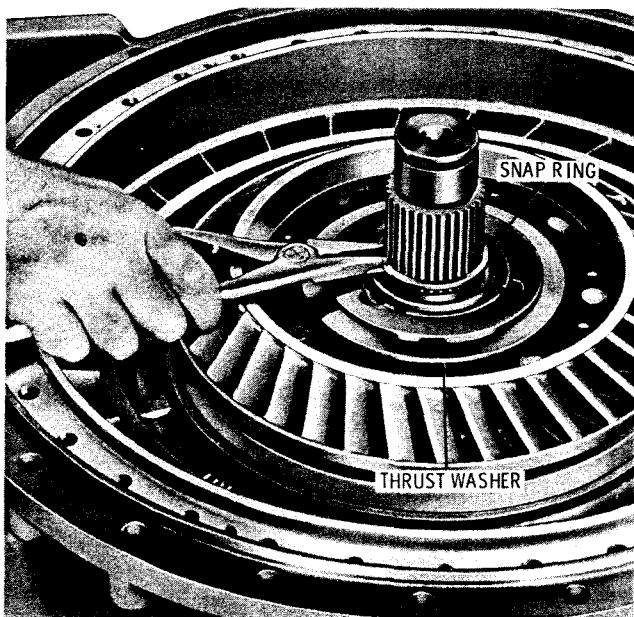

Fig. 5-16. Removing snap ring from converter output shaft
(8) Remove the snap ring from the converter output shaft (fig. 5-16). Remove the turbine thrust washer.